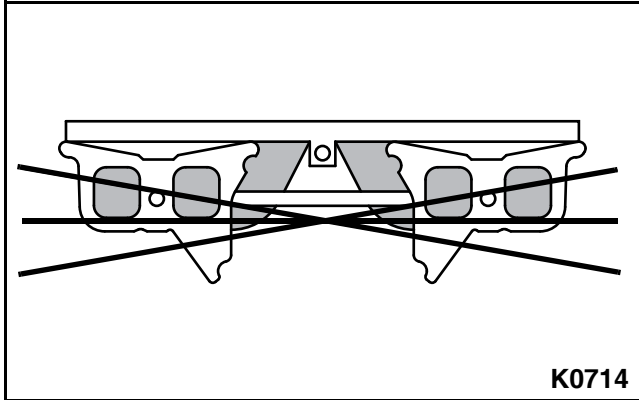

Figure 3-59
3. Inspect intake manifold for distortion using a straight edge and feeler gauge as shown. **See Figure 3-59.**